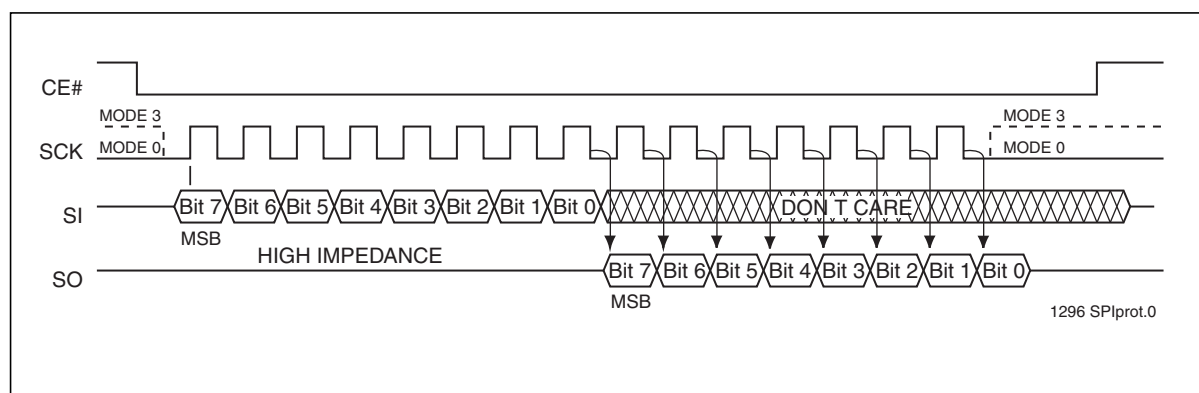

Figure 3: SPI Protocol
The SST25VF080B supports both Mode 0 (0,0) and Mode 3 (1,1) of SPI bus operations. The difference between the two modes, as shown in Figure 3, is the state of the SCK signal when the bus master is in Stand-by mode and no data is being transferred. The SCK signal is low for Mode 0 and SCK signal is high for Mode 3. For both modes, the Serial Data In (SI) is sampled at the rising edge of the SCK clock signal and the Serial Data Output (SO) is driven after the falling edge of the SCK clock signal.